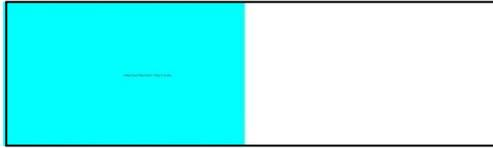

Figure. 121
Step 6: Please follow the instructions shown on the display to match controllers and the touch screens. Click “S” to skip this step if the first monitor is not being used as a touch screen. (Figure. 121)